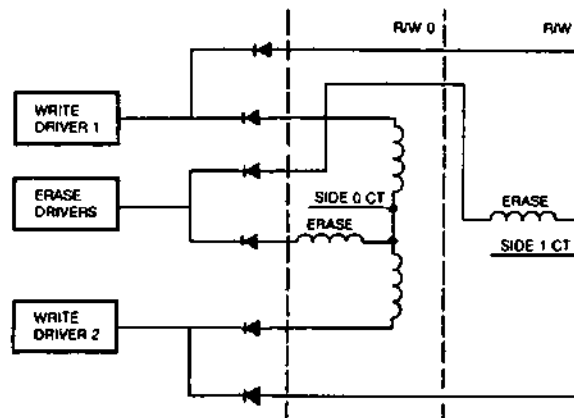

FIGURE 31. READ/WRITE HEADS
1.5.1 Each of the read/write heads contain two coils. Two read/write coils are wound on a single core, center tapped and one erase coil is wound on a yoke that spans the track being written. The read/write and erase coils are connected as shown in Figure 31.
**1.7.2** Since a pulse occurs at least once every  $4\mu\text{s}$  and when data bits are present once every  $2\mu\text{s}$ , the frequency of the read data varies. The read signal amplitude decreases as the frequency increases. Note the signals on Figure 31. The differential amplifier will amplify the read signals to even levels and make square waves out of the read signals (sine waves).